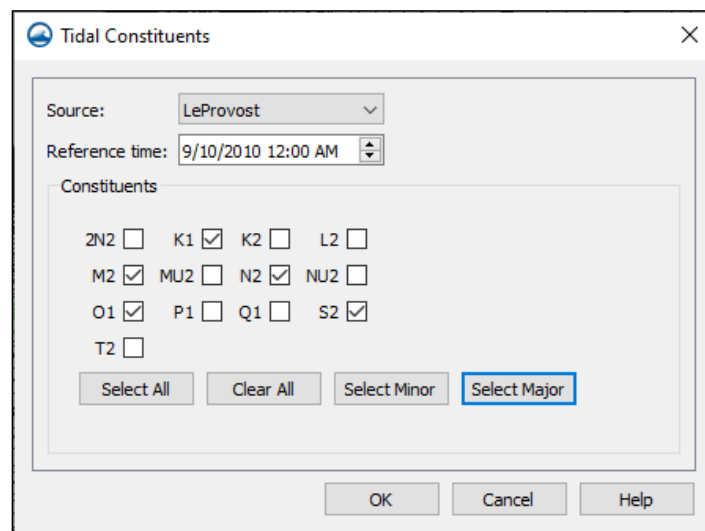

Figure 5: The Tidal Constituents Dialog Filled In
5. Click on the **Select Major** button to select the major constituents. The *Tidal Constituents* should now look similar to Figure 5.